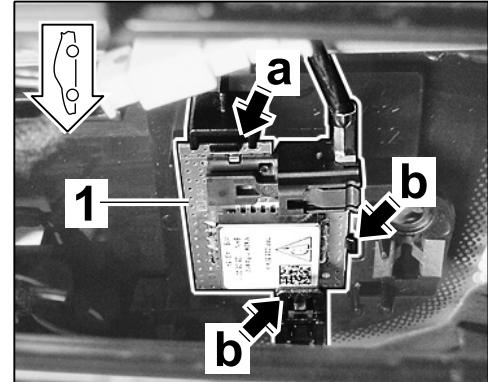

Figure 4
2.2.2 Insert GPS antenna \Rightarrow Figure 4-1- into the mounting \Rightarrow Figure 4-a- and clip it in \Rightarrow Figure 4-b-.